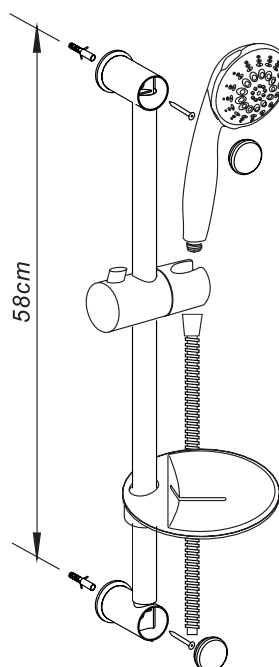

Figure 1
3. Securely fasten the shower rail to the wall at a suitable height – see figure 1